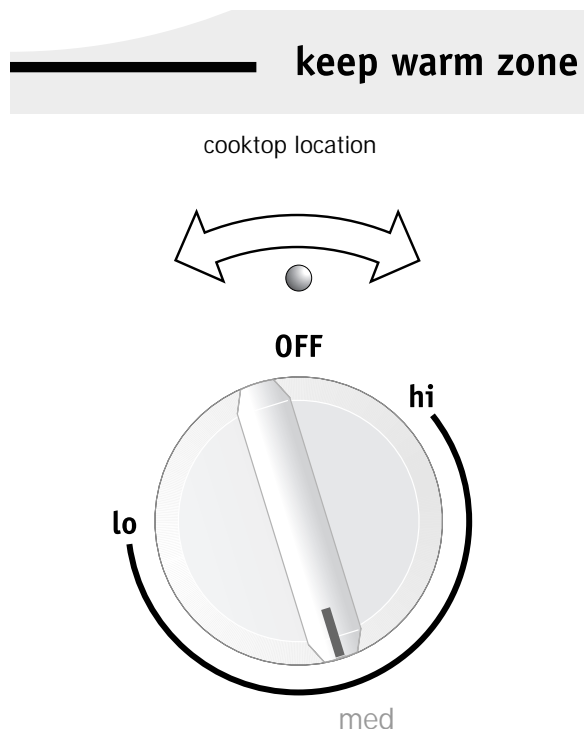

Fig. 1 (with approximate setting for medium shown)
1. Push in either direction and turn the knob (See Fig 1). The temperatures are approximate, and are designated by **hi** and **lo**. However, the control can be set at any position between **hi** and **lo** for different levels of warming.